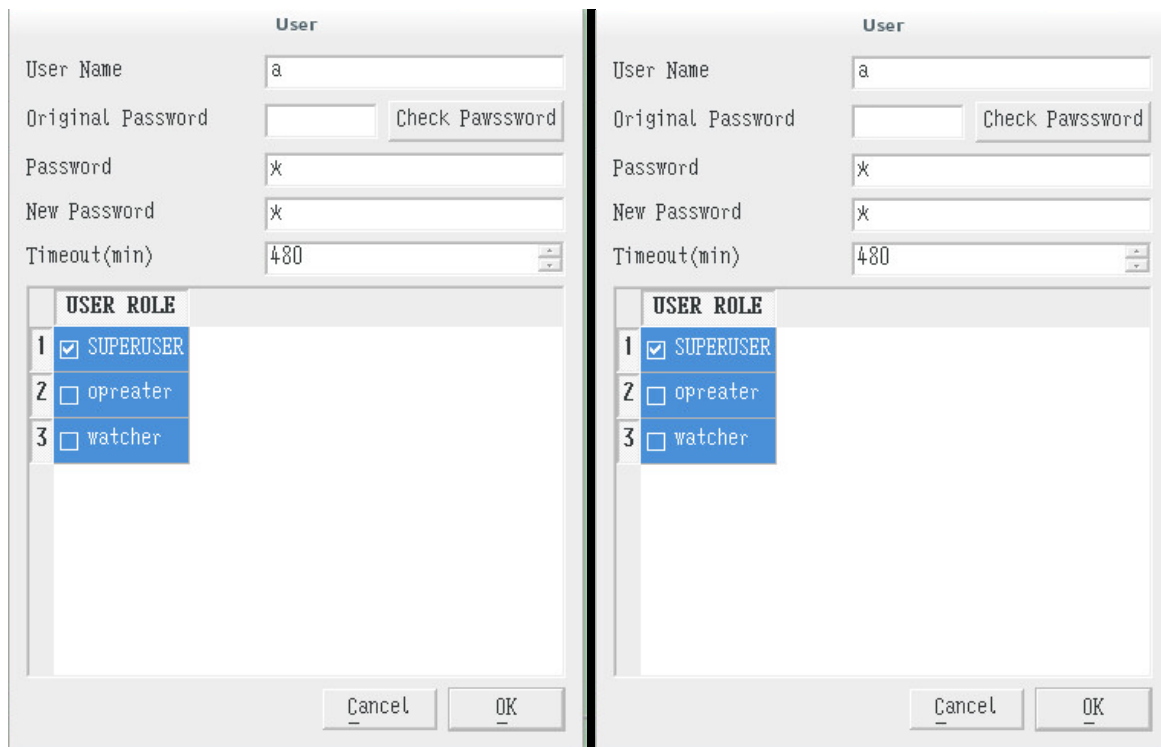

Figure 3.2.2 User Editing
1. The user configuration interface is as shown in Figure 3.2.2.